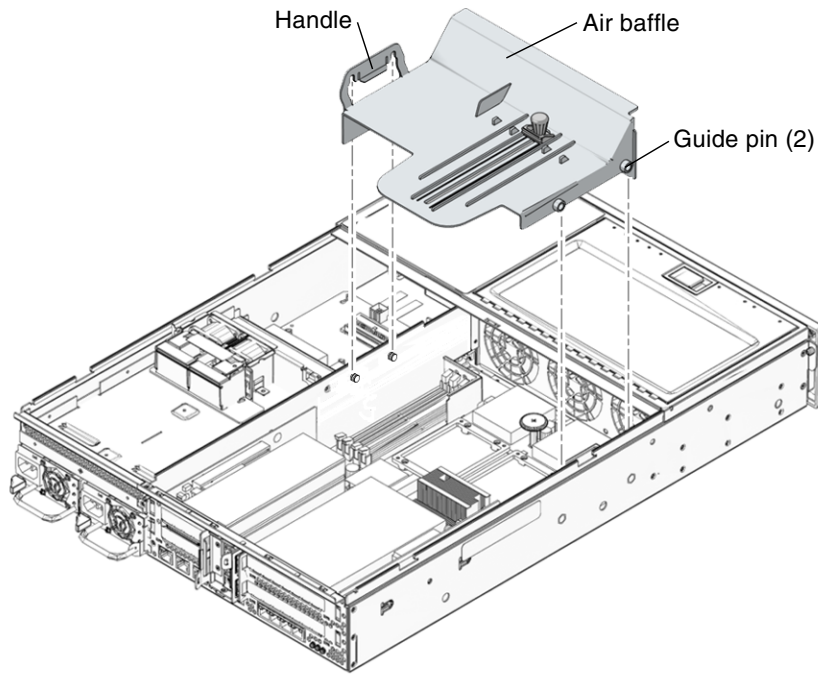

FIGURE 3-8 Air Baffle, Guide Pins, and Handle – Sun Fire V245
3. Lift the handle and remove the air baffle from the server (FIGURE 3-8).
1. Use the guide pins to align and install the air baffle into the chassis (FIGURE 3-8). Ensure that the air baffle is aligned and fully seated in the chassis.
4. **(Sun Fire V245) Remove the air baffle (FIGURE 3-8).**